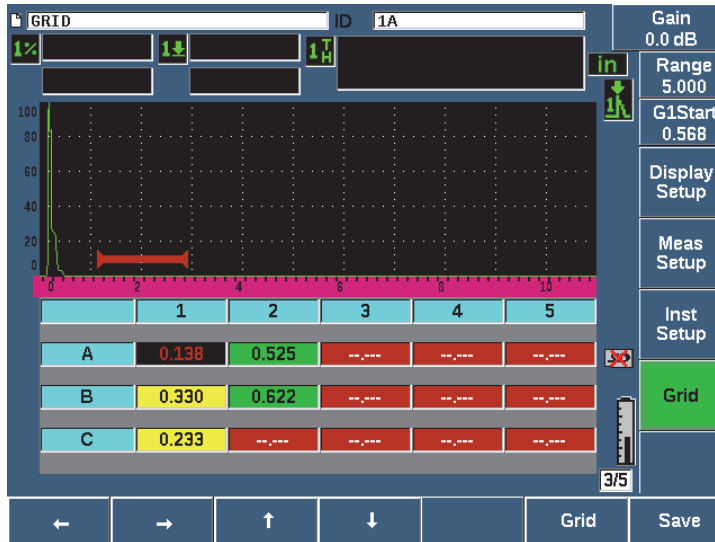

Figure 10-25 Grid controls in the live screen
3. Press **Grid** (P3 key) to display the Grid controls (see Figure 10-25 on page 231).